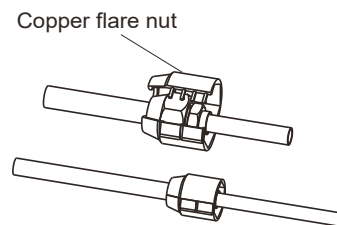

Fig. 8-9
- The protective nut is a one-time part, it can not be reused. In case it is removed, it should be replaced with a new one.(Refer to Fig.8-9)